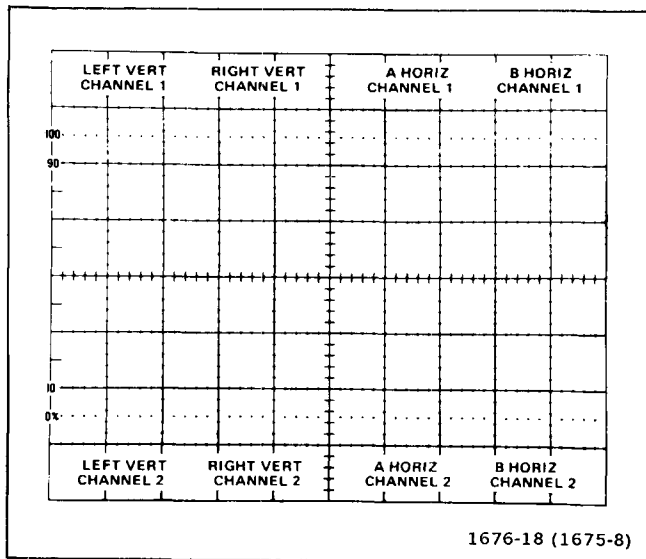
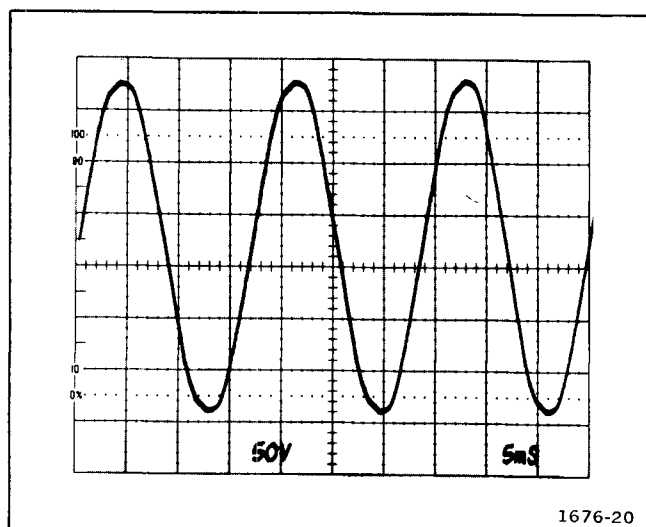

Fig. 3-24. Location of readout display on the crt identifying the originating plug-in and channel.
Fig. 3-25. Typical readout display where only channel 2 of the Right Vertical and B Horizontal units is displayed.
Frame—A display of all words for a given operating mode and plug-in combination. Up to 8 words can be displayed in one frame. Figure 3-24 shows the position of each word in a complete frame.
Column—One of the vertical lines in the Character Selection Matrix (see Fig. 3-25). Columns C-0 (column zero) to C-10 (column 10) can be addressed by the system.
Up to eight words of readout information can be displayed on the crt. The position of each word is fixed and is directly related to the plug-in unit from which it originated. Figure 3-24 shows the area of the graticule where the readout from each plug-in unit is displayed. Notice that Channel 1 of each plug-in unit is displayed within the top division of the crt and Channel 2 is displayed directly below within the bottom division. Figure 3-25 shows a typical display where only Channel 2 of the Right Vertical and B Horizontal units is selected for display.
The Format Generator stage provides the output signals to the vertical and horizontal deflection systems of the instrument to produce the character display. The binary Channel Address Code from the Channel Counter stage is connected to this stage, so that the display from each channel is positioned to the area of the crt associated with the plug-in and channel originating the word (see Fig. 3-24). The positioning current or decimal point location current generated by the Decimal Point Logic and Character Position Counter stage is added to the Horizontal (X) signal at the input to the Format Generator stage to provide horizontal positioning of the characters within each word. The X- and Y-Readout signals are connected to the Horizontal Amplifier and Vertical Amplifier through the X- and Y-Buffer stages.